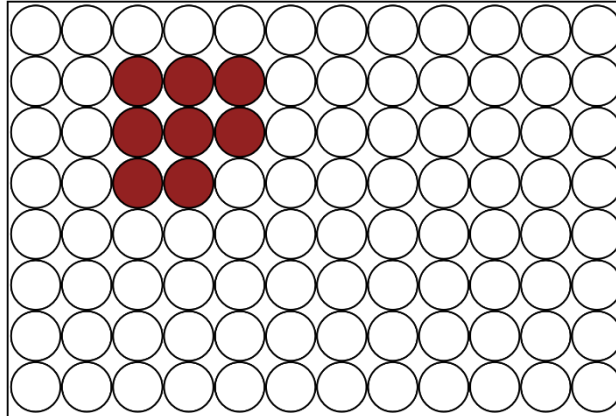

Figure 5. Well plate 4
- The placement of the samples is depicted in Figure 5.